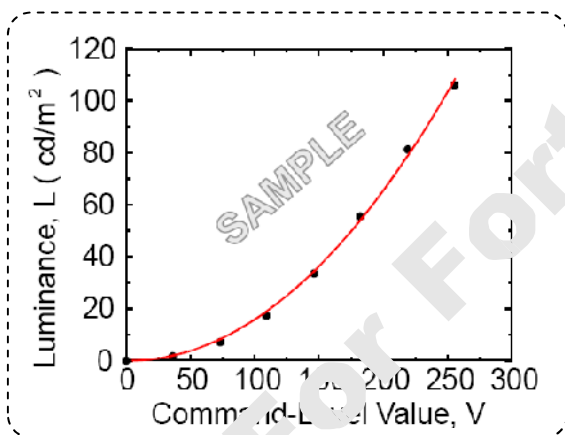
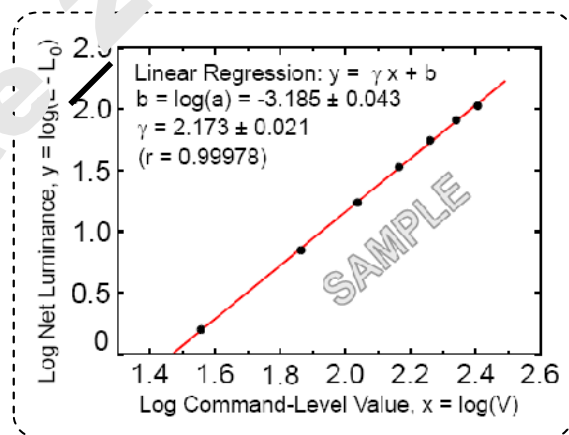

FIG.11 Sample Luminance vs. gray scale
FIG.12 Sample Log-log plot of luminance
7. GSR is the rate of gamma shift at up, down, left and right 60 degree viewing angle compare with center gamma. For more information see FIG.11 and FIG.12 (By EZ Contrast)
The GAMMA we calculate from the log-log representation (FIG.11)